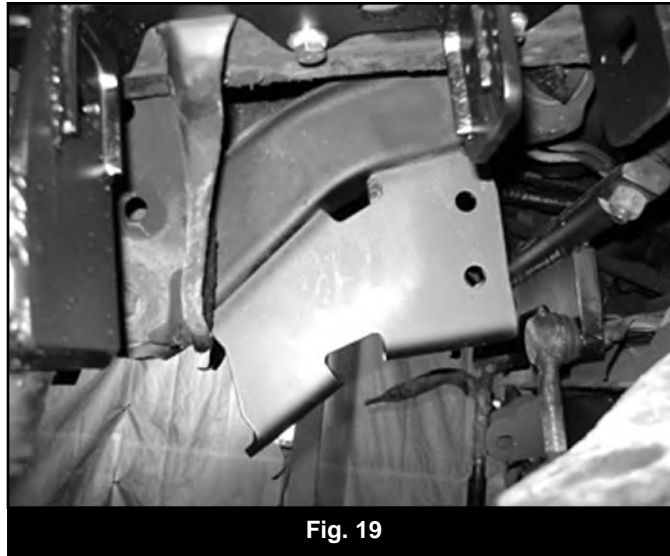

Fig. 19
36. Install the provided passenger's side differential bracket (02347) to the OE differential mounting studs and retain with the original nuts and washers (Fig 19). Leave hardware loose. The wide end of the bracket goes to the front and the open side faces inward.